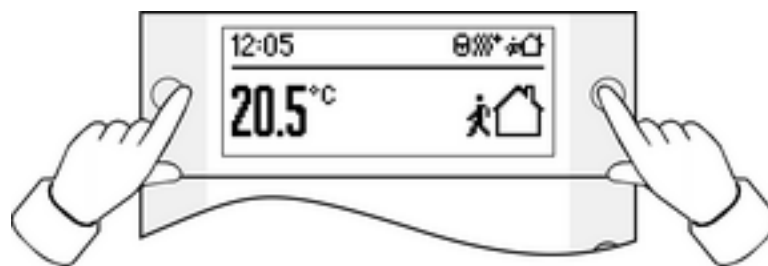

Figure 2
- Press both buttons next to the display simultaneously (Figure 2).